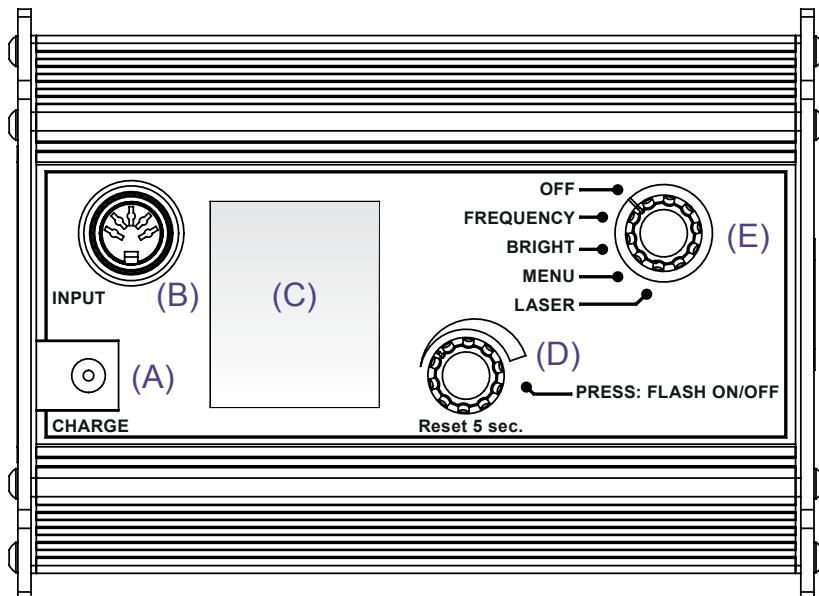

Fig.1 - Stroboscope QB-LED and QBS-LED
### 3.1 Connectors (see Fig. 1)
1. Charge the device by plugging the charger into the **CHARGE (A)** socket to the rear of the device (see Fig. 1)
2. Direct the device at a moving object and switch it on. Turn the selector switch (E) one notch to the left to “**FREQUENCY**.”